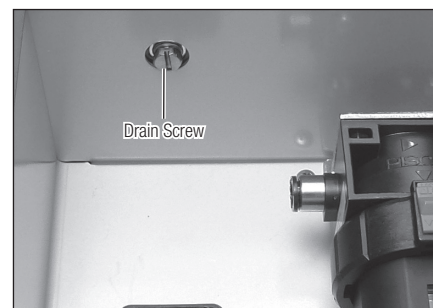

Fig. 3
- Before filling with Maintenance Oil, be sure that the Drain Screw on the underside of the Unit is tightened securely. Oil may leak if the screw is loose (Fig. 3).